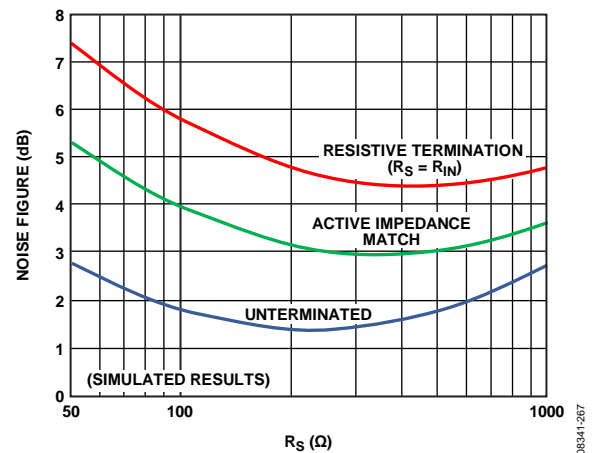

Figure 62. Noise Figure vs. R_S for Resistive, Active Match, and Unterminated Inputs
The primary purpose of input impedance matching is to optimize the input signal power transfer. With resistive termination, the input noise increases due to the thermal noise of the terminating resistor and the increased contribution of the input voltage noise generator of the LNA. With active impedance matching, however, the contributions of both are smaller than they would be for resistive termination by a factor of $1/(1 + \frac{1}{2} \text{LNA Gain})$. The noise figure (NF) for the three terminating schemes are shown in Figure 62.